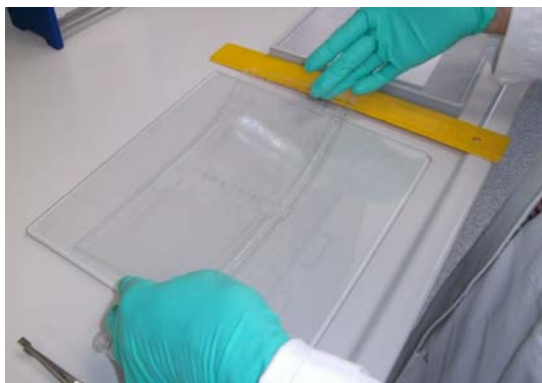

Fig. 11
- Place HPE™ BlotGel on a glass plate (backing film down, Fig 11).